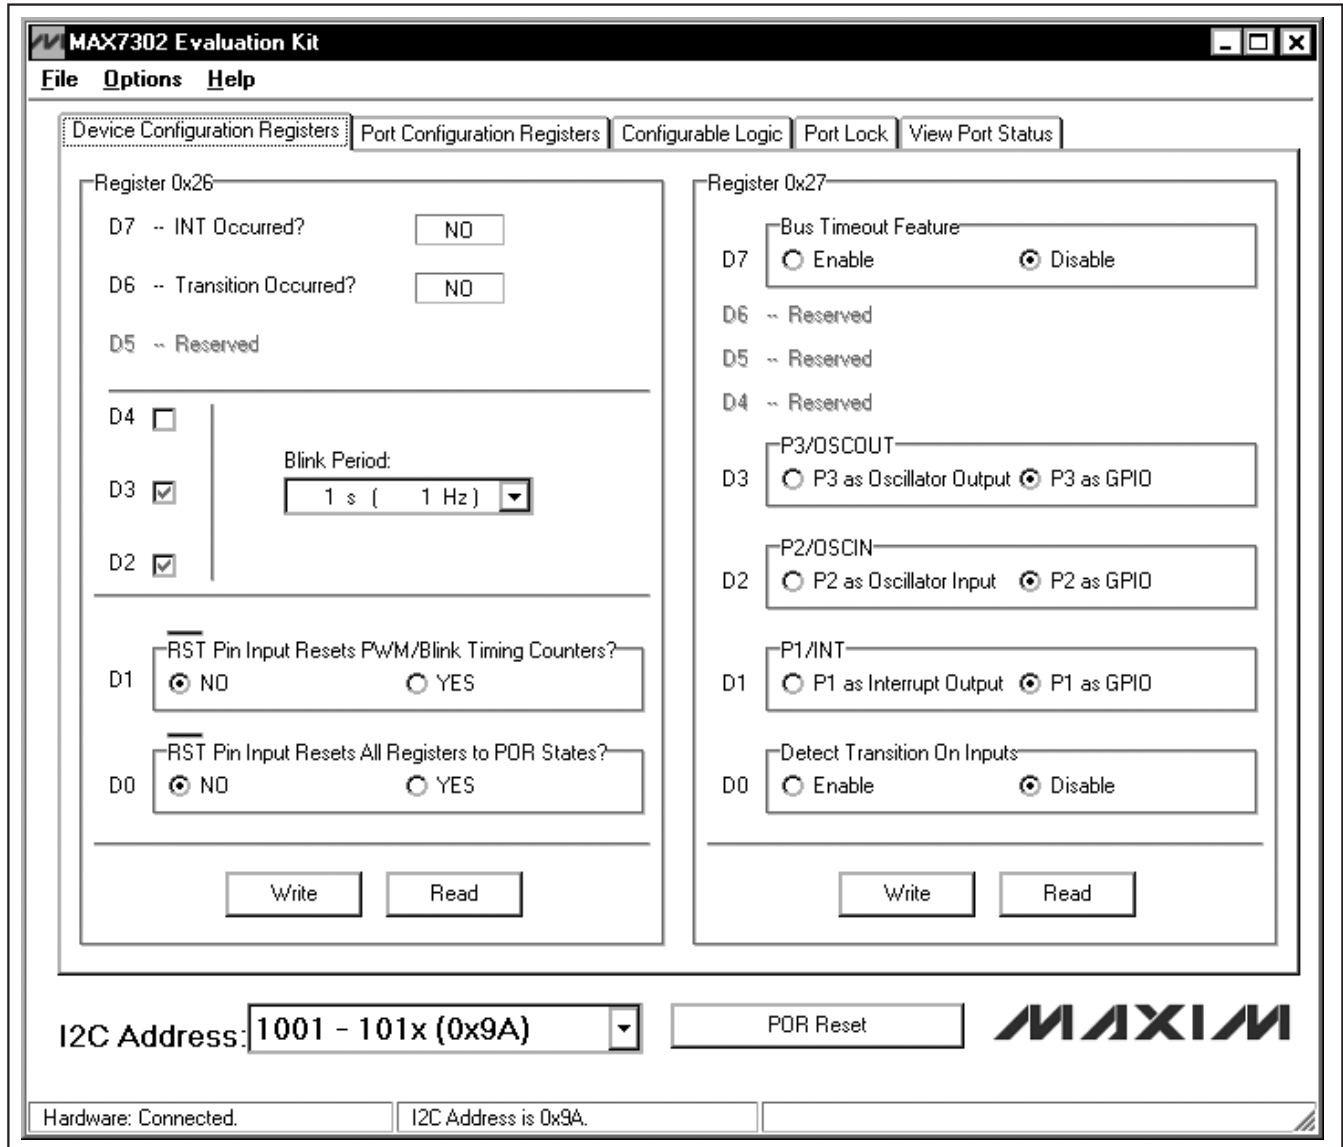

Figure 1. Device Configuration Registers Tab
- 7) Start the MAX7302 EV kit software by opening its icon in the **Start | Programs** menu. The EV kit software main window appears as shown in Figure 1.
The **Device Configuration Registers** tab shown in Figure 1 contains two group boxes: **Register 0x26** and **Register 0x27**.